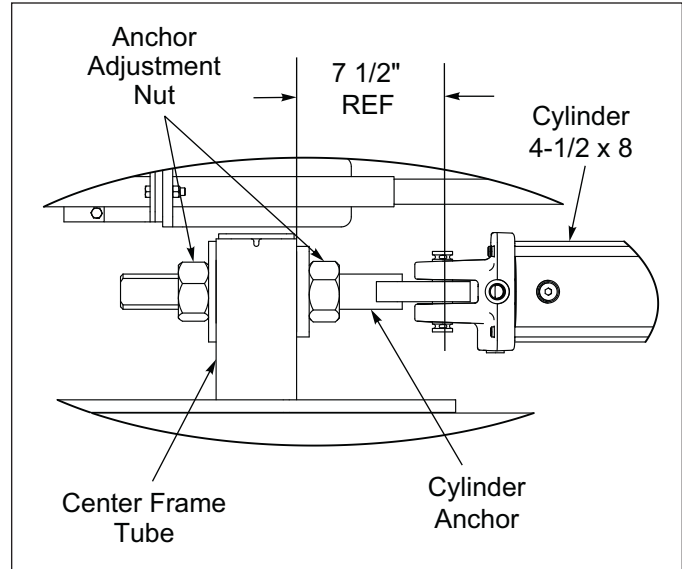

Figure 3-2: Center Frame Hyd Cyl Spacing
2. If Tooth Tubes are not parallel to the frame, check measurement from the center frame tube or wing frame tube to the cylinder pin. **See Figures 3-2 and 3-3.** Note the dimensions shown are a starting point.